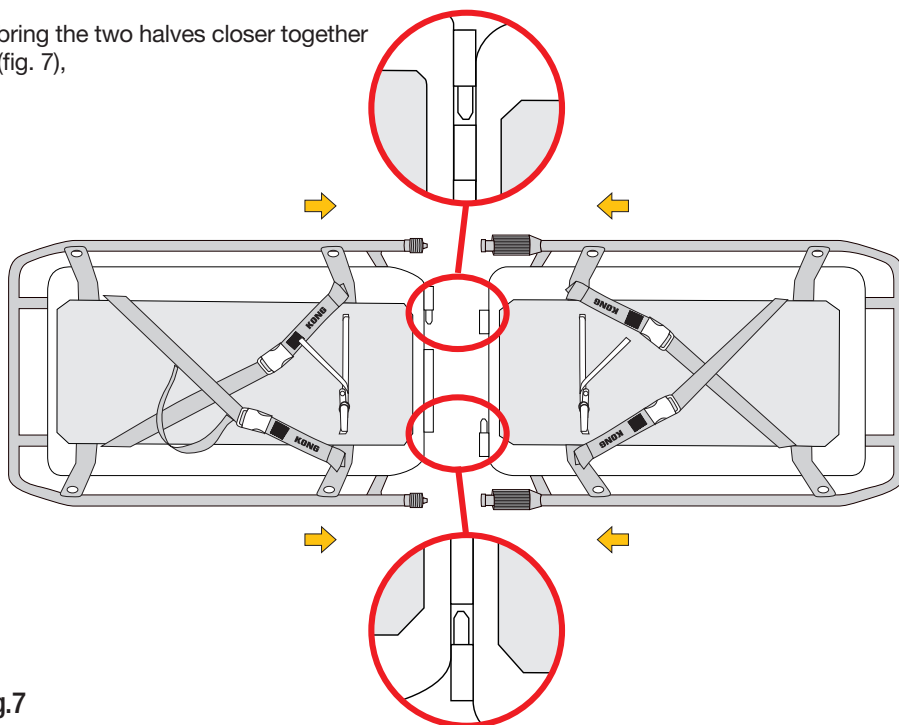

Fig.7
- a) bring the two halves closer together (fig. 7),